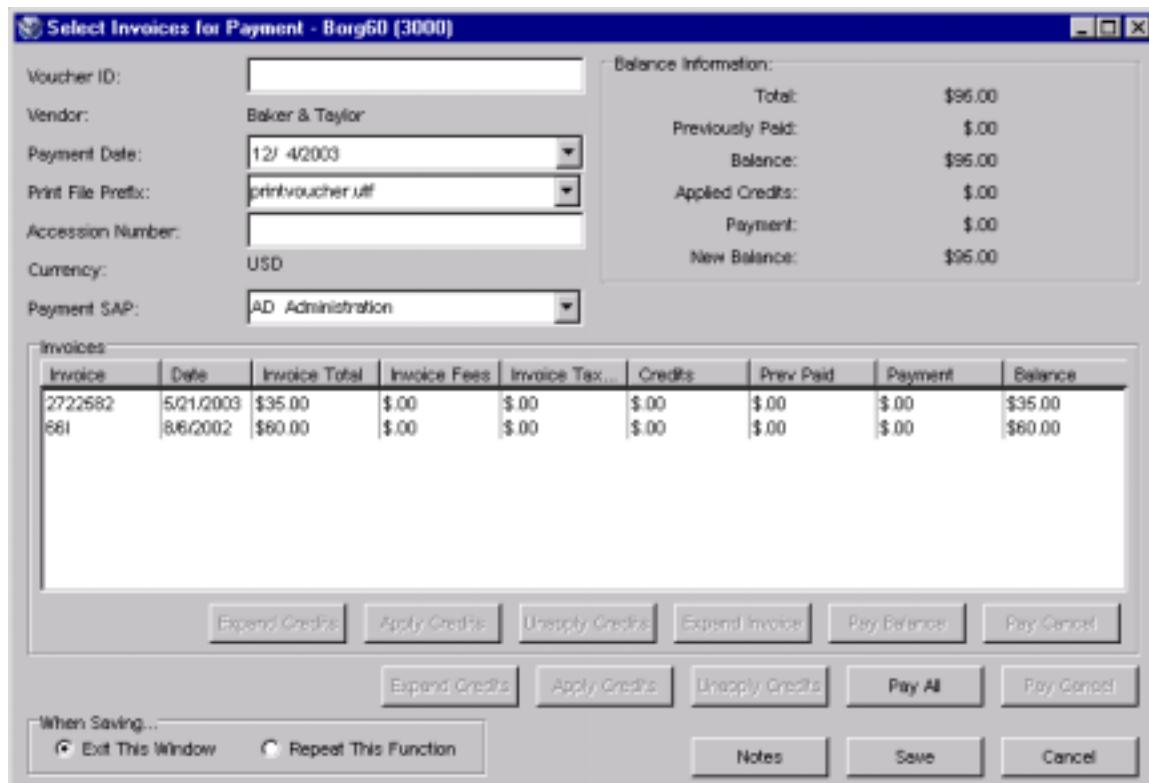

Figure 8-2. Select Invoices for Payment Window
The Select Invoices for Payment window appears (*Figure 8-2*), displaying ALL invoices eligible for payment for the selected vendor. If no invoices are eligible for payment, the software informs you that there are no invoices to pay.
2. Click the Pay All button (*Figure 8-2*).